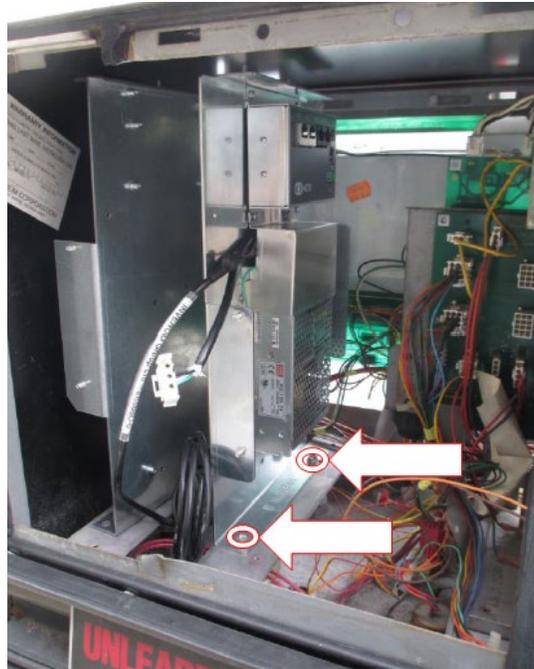

Figure 67
- 15) Remove the power supply bracket with Invenco Link power supply attached by first loosening the two feet mounting screws. Discard mounting screws. See Figure 67 below.